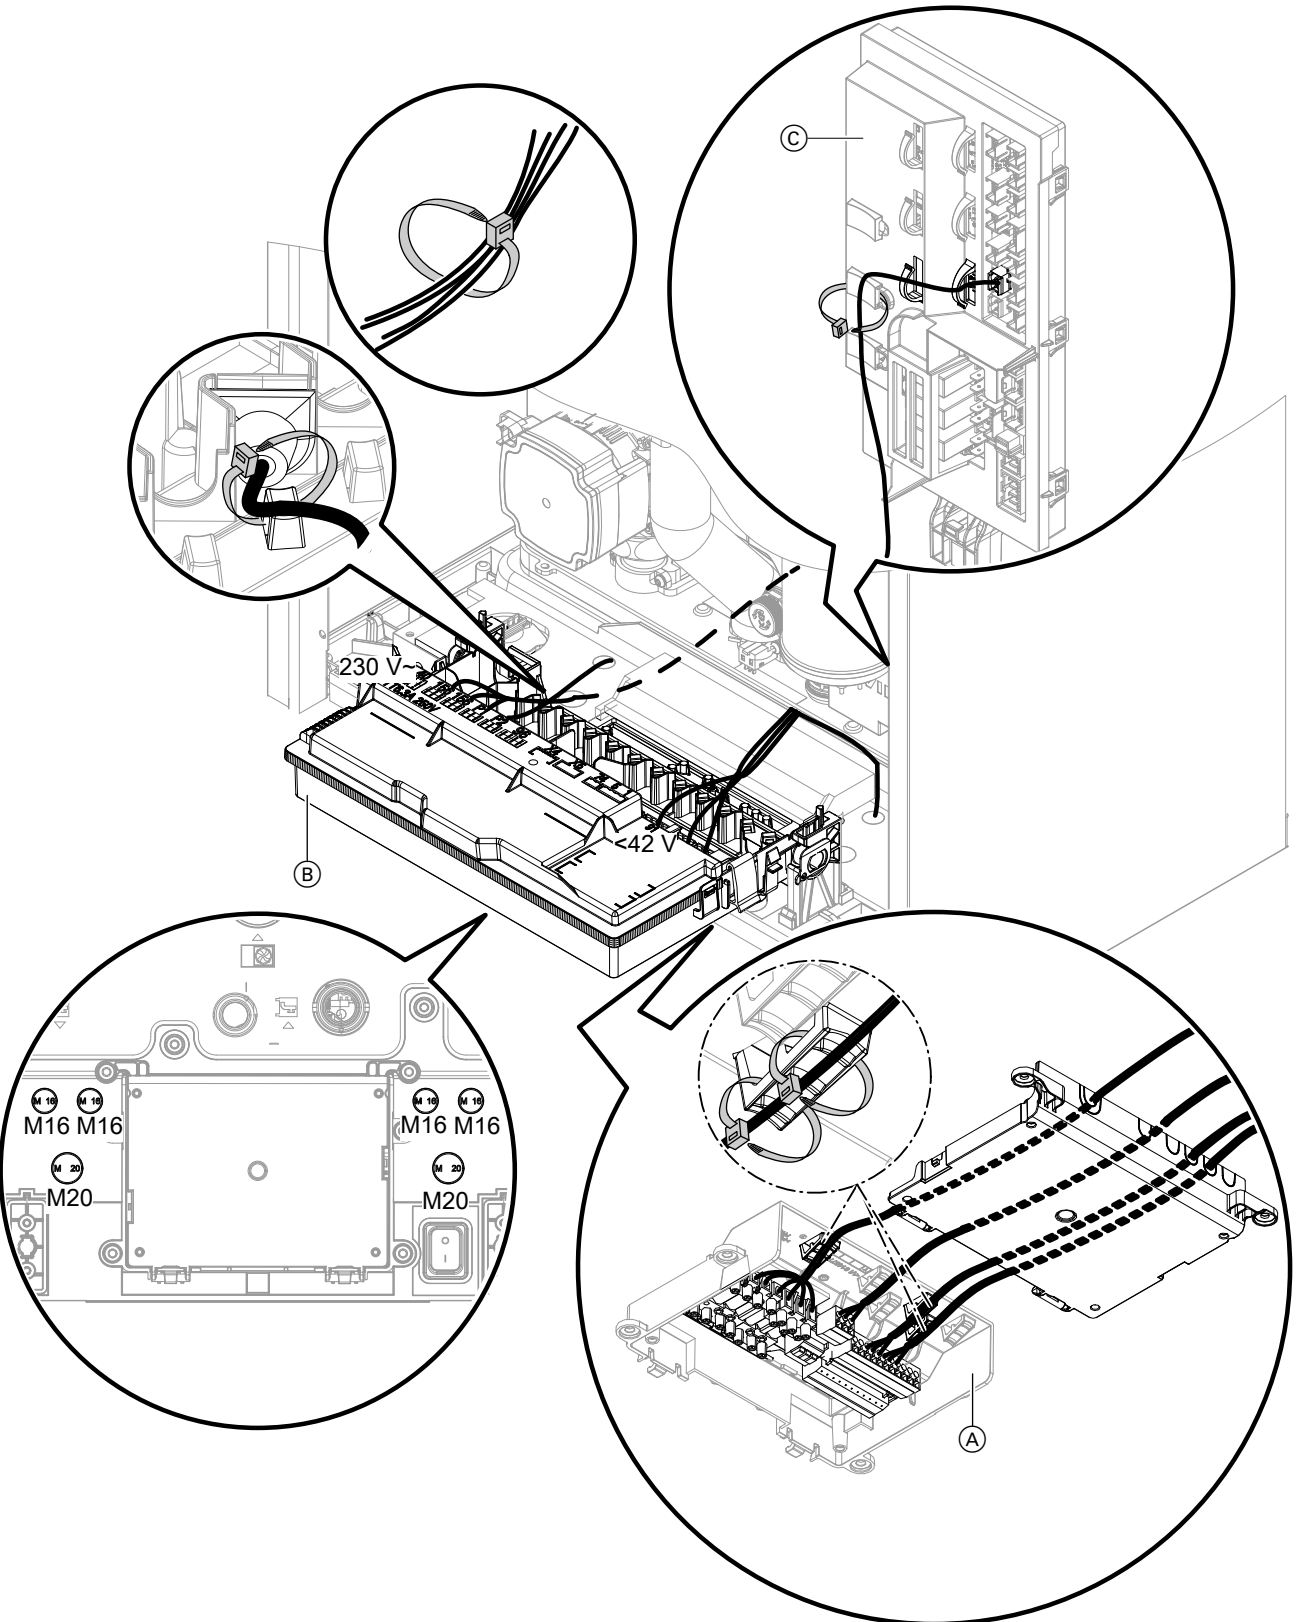

Fig. 38
- Provide strain relief on all cables/leads in the 230 V~ junction box with 2 cable ties: See Fig. 38.